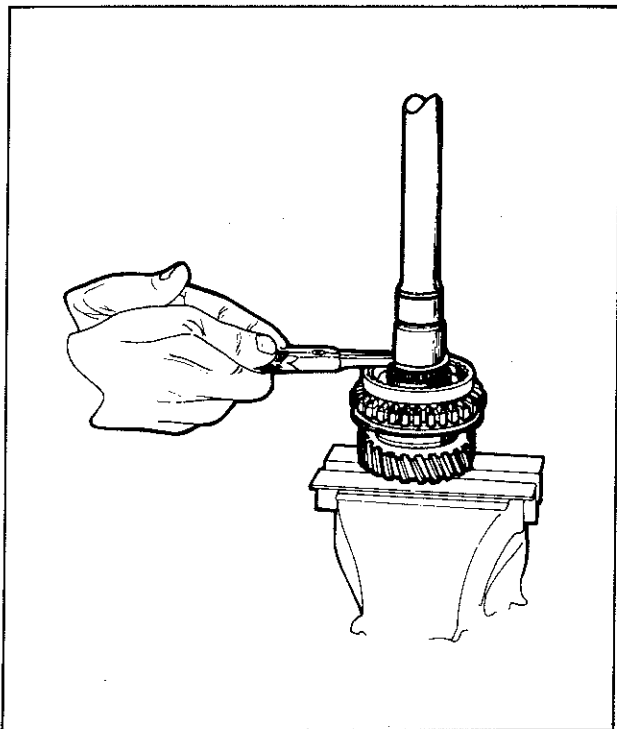

Fig. 15—Removing first/second synchronizer hub snap ring
(6) Remove first and second synchronizer hub snap ring from the mainshaft, Fig. 15.
(7) Remove the first and second synchronizer inner hub and reverse sliding gear, the second speed gear and blocker ring by supporting the front face of the second speed gear and pressing on the rear end of the mainshaft.